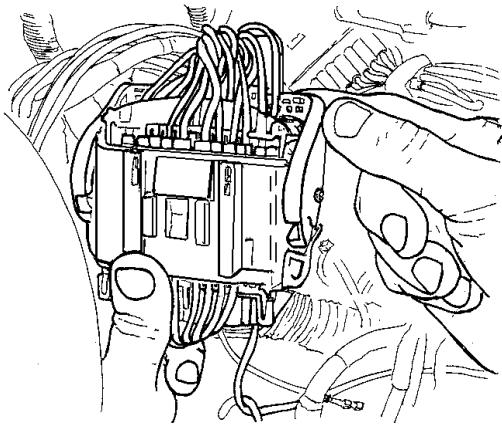

Figure 19 Close 40 Pin Slide Lock Connector
21. Reconnect the 40 pin slide lock connector (Figure 19).